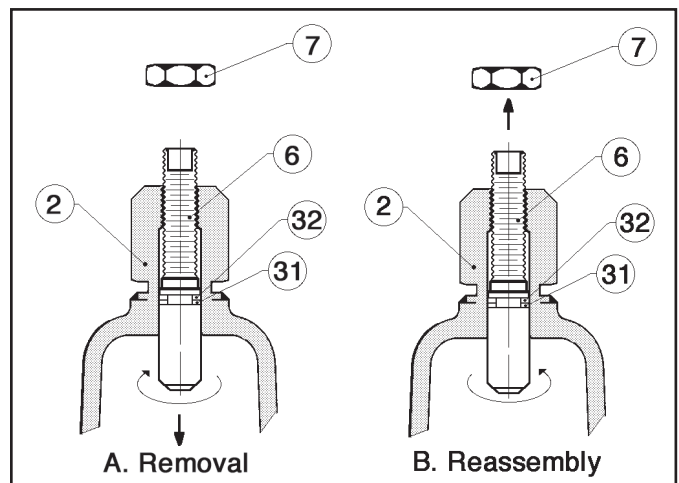

Figure 1: Adjusting screw (6) o-ring inspection.
DO NOT ATTEMPT TO REMOVE ADJUSTING SCREW (6) FROM TOP OF SPRING CHAMBER (2). The adjusting screw (6) is threaded upward from inside the spring chamber (2). The CCW rotation used to relieve range spring (14) tension will come to a stop. At the stopping point, do not apply any torque to adjusting screw (6) or damage may occur and render the unit inoperable. See Figure 1.
1. Securely install the body (1) in a vise with the spring chamber (2) directed upwards.
2. To relieve range spring (14) compression, remove closing cap (28) by turning CCW. Remove lock nut (7) by turning CCW. Turn adjusting screw (6) CCW until range spring (14) compression is relieved. **NOTE: See CAUTION C).**
3. Draw or embed a match mark between body (1) casting, body spacer (24), and spring chamber (2) casting along flanged area.
5. Remove spring chamber (2), range spring (14), spring button (4), pressure plate (3), body spacer (24), diaphragm (12), and o-rings (30).
6. Adjusting screw (6) o-ring inspection:
- a. With locknut (7) and closing cap (28) removed, turn adjusting screw (6) CW as far as possible by turning flats on top end. Carefully reach inside spring chamber (2) and grasp adjusting screw (6) by hand. **NOTE:** For 1/2" (DN15) and 3/4" (DN20) size regulators a small piece of plastic tubing with a 3/4" (19 mm) inside diameter may be used to grasp the adjusting screw (6). Complete adjusting screw (6) removal by rotating CCW. See Figure 1.
- c. Lubricate adjusting screw (6) threads. Carefully reinstall the adjusting screw (6) up into the spring chamber (2) by rotating the adjusting screw (6) CW until top of adjusting screw (6) protrudes from top of spring chamber (2). **NOTE:** Care should be taken when holding and rotating the adjusting screw (6) so the quad ring (31) and backup ring (32) are not inadvertently nicked or torn. Grasp top of adjusting screw (6) and turn CCW until rotation stops (**see CAUTION C**). See Figure 1.
- d. Loosely install lock nut (7) and closing cap (28).
7. Inspect pressure plate (3) for defects due to over-pressurization. Replace if defective.
9. Place first o-ring (30) on body (1) and lubricate with a lightweight multi-purpose grease. Position body spacer (24) on body with match marks aligned. Place pusher plate (11) on body spacer (24) and check for vertical movement. **NOTE:** The vertical movement should be free and unobstructed as the pusher plate (11) is pushed down and the lower piston spring (17) contracts and expands. If movement is not free, go to Subsection C following to inspect the inner trim parts.
10. Place second o-ring (30) on body spacer (24) and lubricate with lightweight multi-purpose grease. Position diaphragm (12) on body spacer (24) inside of o-ring (30).
11. Visually center the pressure plate (3) on diaphragm (12). Place range spring (14) onto retainer hub of pressure plate (3).
12. Place multi-purpose, high temperature grease into depression of spring button (4) where adjusting screw (6) bears. Set spring button (4) onto range spring (14); ensure spring button (4) is laying flat.
13. Using "NEW" studs (34,35) and nuts (9) (**see CAUTION D**), thread a nut onto each stud approximately 1.25" (32 mm). Drop the studs (34,35) with nuts (9) through the holes in spring chamber (2). (This will assist in keeping the spring chamber (2) centered on body (1) and prevent parts from moving during re-assembly).